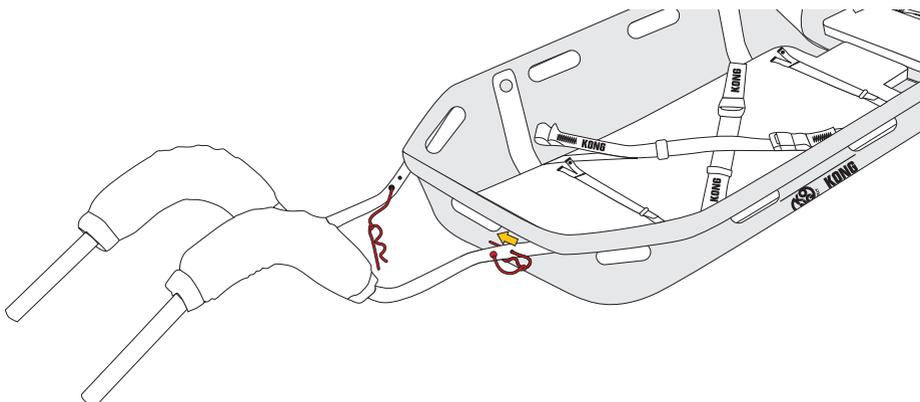

Fig.14
- b) Lock the connection by inserting the shaped plug into the corresponding hole (Fig. 14).